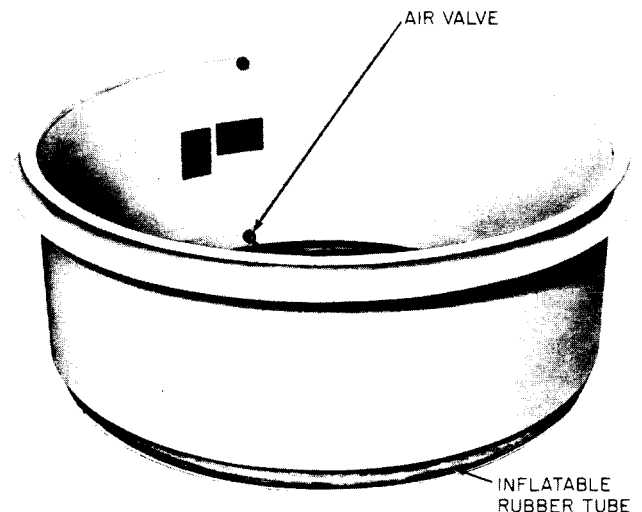

Fig. 2—D Manhole Shield
2.02 The D Manhole Shield (Fig. 2), is a steel rim having a circumferential channel at each end to accept an inflatable rubber tube which is furnished as part of the shield. The tube, a 26-inch by 1.25-inch thorn proof bicycle tube, when inflated provides a seal to the manhole frame seats with diameters from 28-1/2 to 29-1/2 inches and from 31-1/2 to 33-1/2 inches. It will not fit manhole frames having seat diameters of 24 or 36 inches. The shields are available in 8 and 12-inch heights.